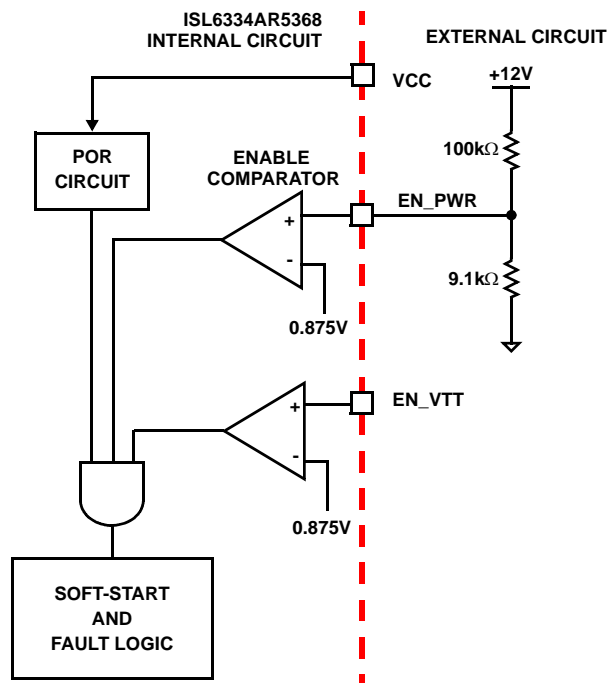

FIGURE 8. POWER SEQUENCING USING THRESHOLD-SENSITIVE ENABLE (EN) FUNCTION
2. The ISL6334AR5368 features an enable input (EN_PWR) for power sequencing between the controller bias voltage and another voltage rail. The enable comparator holds the ISL6334AR5368 in shutdown until the voltage at EN_PWR rises above 0.875V. The enable comparator has about 130mV of hysteresis to prevent bounce. It is important that the driver reach their POR level before the ISL6334AR5368 becomes enabled. The schematic in Figure 8 demonstrates sequencing the ISL6334AR5368 with the ISL66xx family of Intersil MOSFET drivers, which require 12V bias.